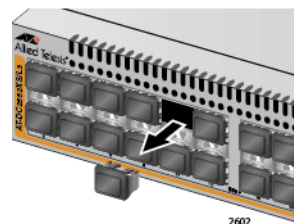

Figure 33. Removing SFP+ Dust Cover
6. Remove the dust cover from the module. See Figure 33.